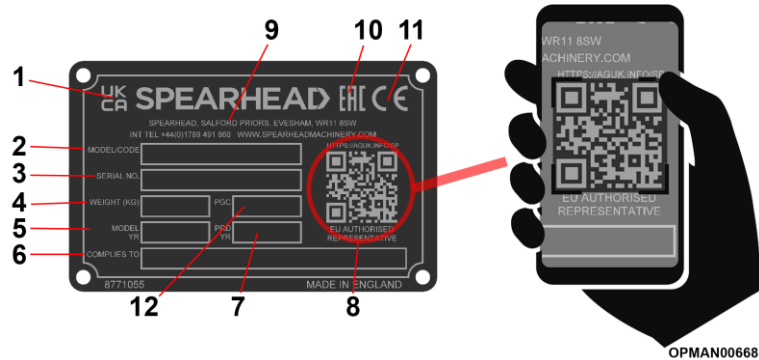

Figure 1.3 – Serial Plate
Each machine is equipped with a serial plate; see Figure 1.3 that includes the following data in this order:
By utilising a smart phone and scanning the Authorised Representative QR scan code found on the right-hand side of the serial plate (ref 8, Figure 1.3) using a suitable QR scanning App, you can find details for Spearhead Machinery authorised representatives for its various territories.